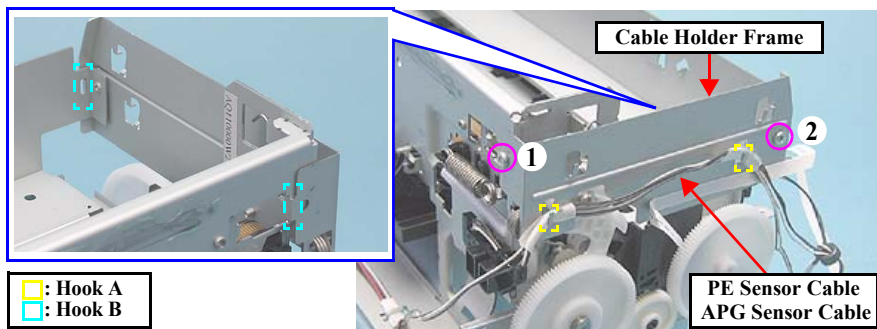

Figure 4-128. Removing the Cable Holder Frame
- Screw the Cable Holder Frame in the order given in Fig.4-128.